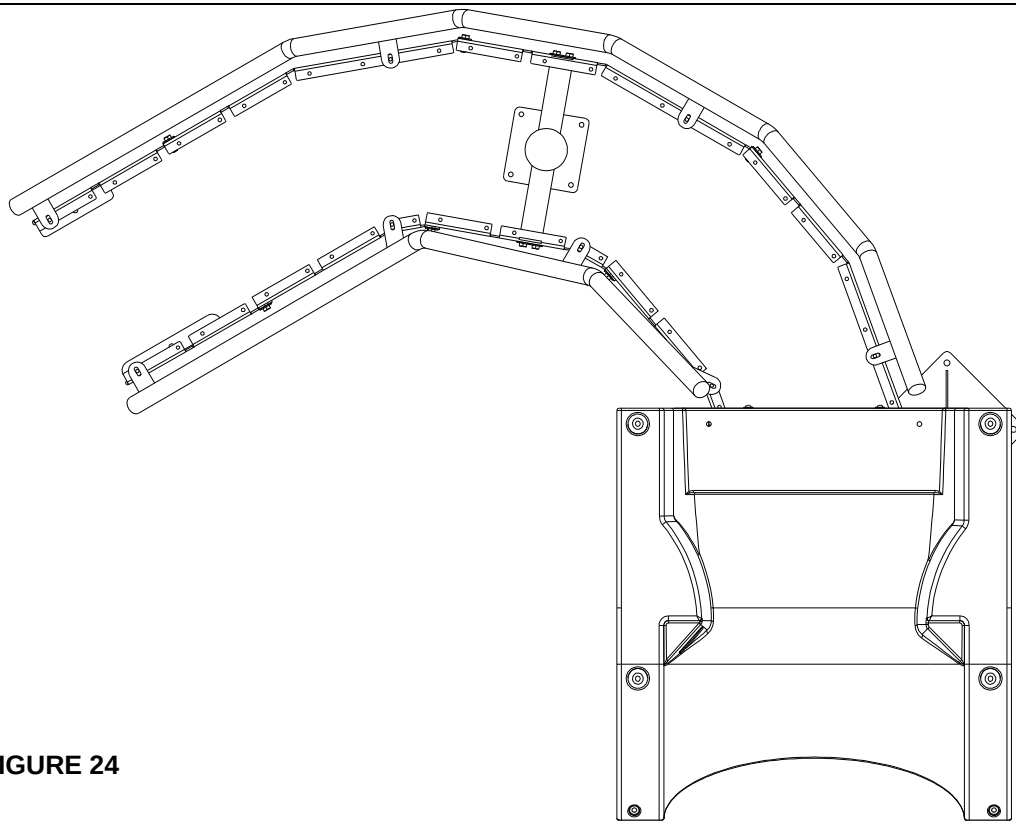

**FIGURE 23**
6) Install the stair treads on all steps where the handrail brackets will not be attached. The handrail brackets are installed on the following steps, starting from the bottom: 1, 5, 8, and 11. Beginning at the top, align the pre-drilled holes in the stair treads with the holes on each side of the stair brackets, as shown in Figure 23. Use the following hardware to attach the stair treads to the brackets: 5/16" x 1.25" Hex Head Lag Screw (32), 5/16" Flat Washer (34), and a 5/16" Nylon Washer (33).
For the treads where a handrail bracket is attached, you will also need to add a 3/16" Spacer (37) between the bracket and the step as shown in Figure 23. You will need to assemble the handrails to the stairs before assembling the rest of the stair treads.